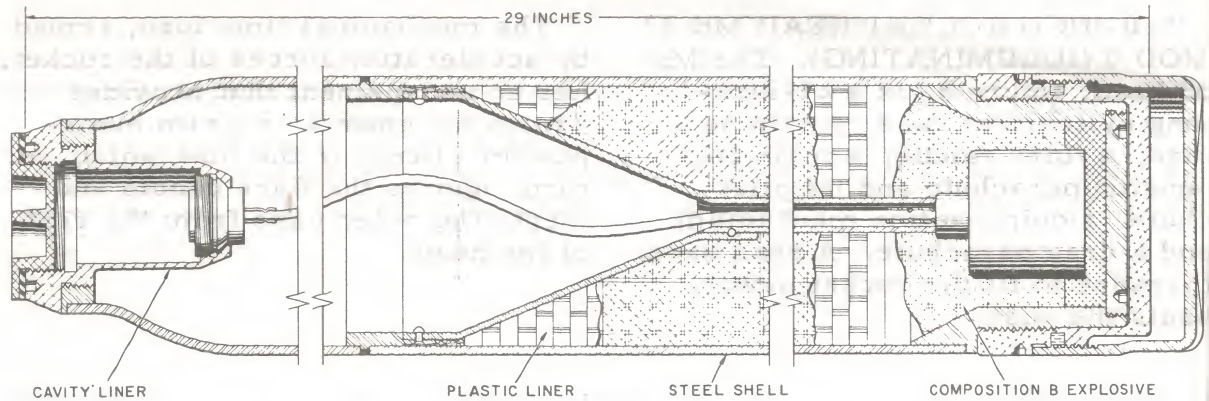

Figure 7 - 5.0-Inch Rocket Head Mk 32 Mod 0 (ATAP).
**5.0-INCH ROCKET HEAD MK 32 MOD 0 (ATAP).** The Mk 32 Mod 0 rocket head, anti-tank, anti-personnel (ATAP), similar to the HVAR Rocket Head Mk 25 Mod 0, is shown in figure 7. The head is 29 inches long, its steel shell is 1/8-inch thick, and its weight with fuze is 48 pounds, of which 15 pounds is high-explosive Composition B. Containing a plastic liner to control fragmentation, the head emits, upon detonation, more than 2000 high-speed, 1/4-inch-square fragments. Field tests of this head have shown capability sufficient to damage vehicles from a miss-distance as great as 70 feet from the target.